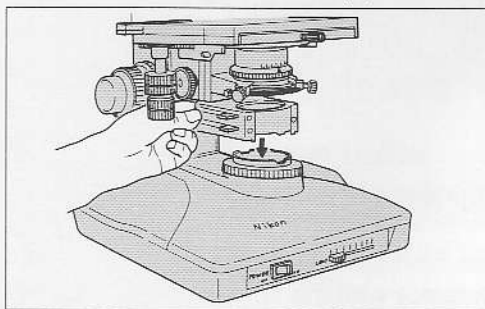

Fig. 2-13
⑩ Mounting and Dismantling the ND Filter Cassette (optional)
- Push down the ND filter cassette from the top so the two protrusions of the lower part of the ND filter cassette fit with the two mounting grooves on the rim of the field lens part of the microscope base (Fig.2-13).